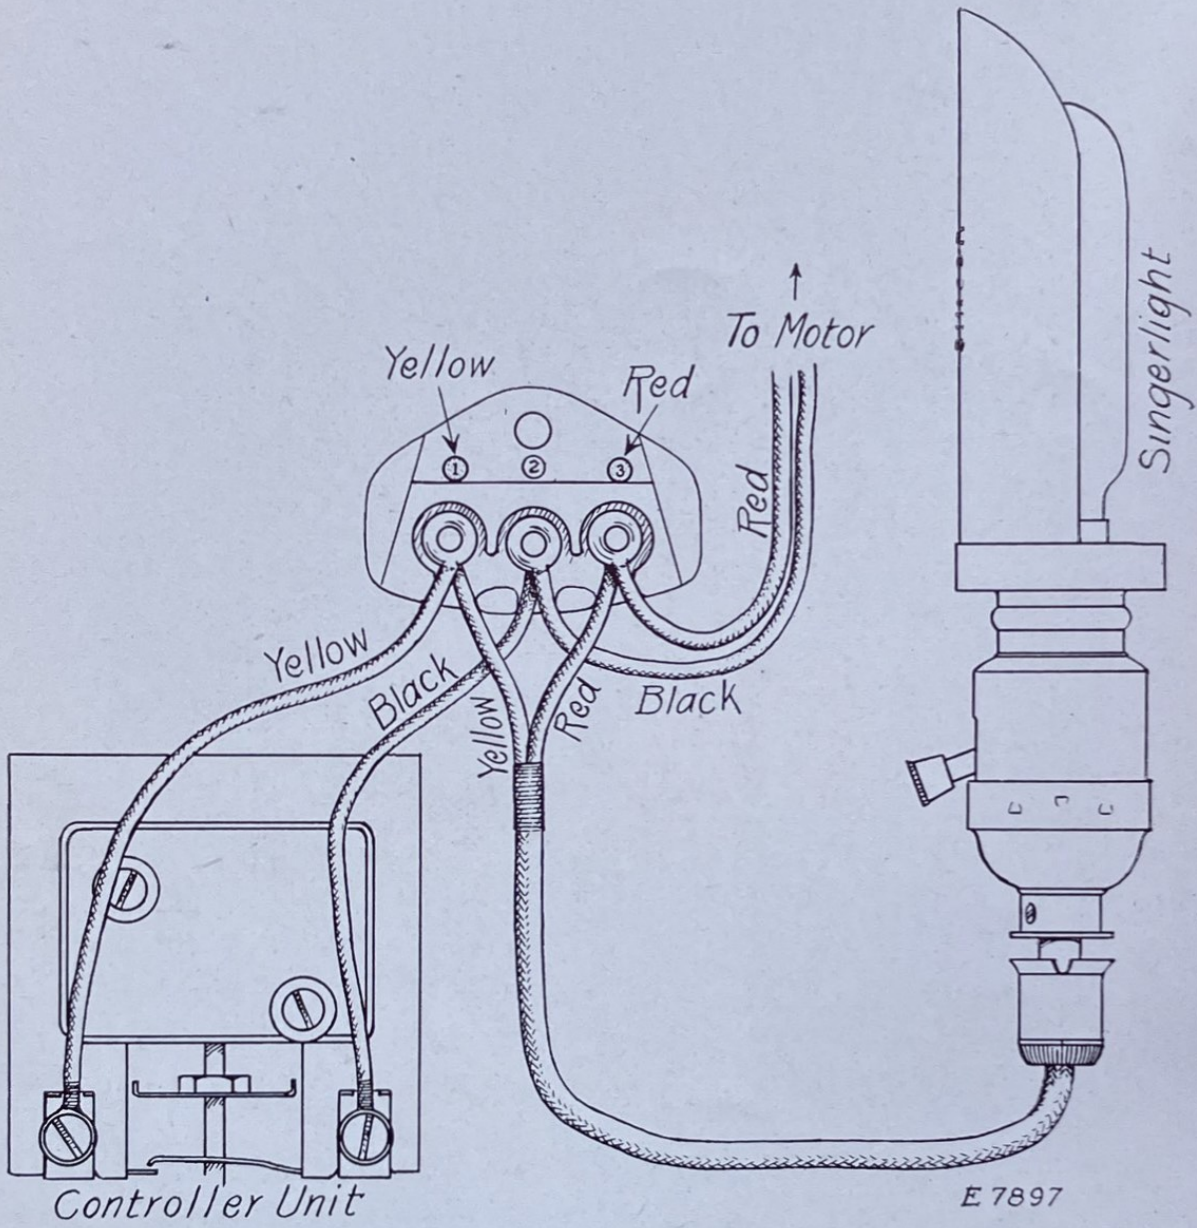

FIG. 10. WIRING DIAGRAM OF MACHINE 101-3
Place the eyelets at the ends of the black leads on the centre post (2) of the three-pin terminal block; place the eyelets at the ends of the red leads on the post nearest the red spot (3), and place the eyelets at the ends of the yellow leads on the post nearest the yellow spot (1). See Fig. 10, page 14, for wiring diagram.
See Fig. 10, page 14, for wiring diagram.